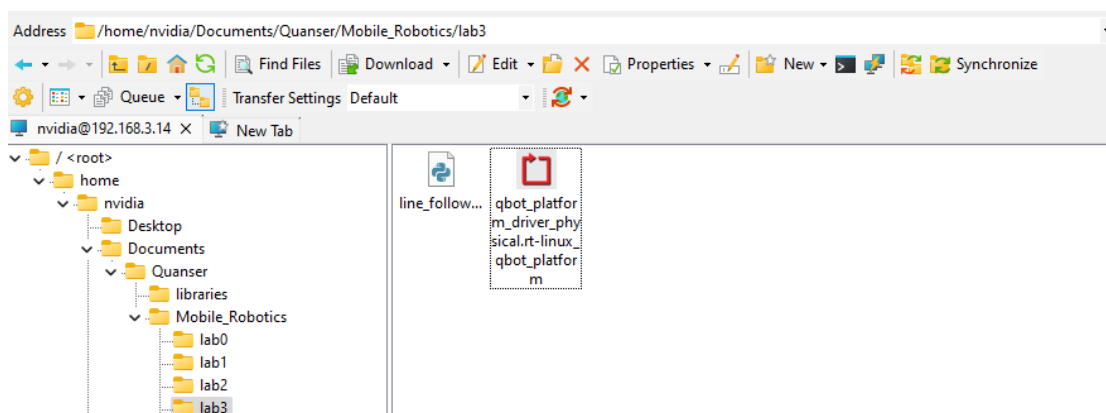

Figure 1. Correct directory for python script
- a. navigate to "`~\Documents\Quanser\Mobile_Robotics`" and create a new folder "`Lab3`", as shown in Figure 1. Then copy the updated line_following.py to "`Lab3`". In addition, copy the qbot_platform_driver_physical.rt-linux_qbot_platform over. (You can just drag the files over).